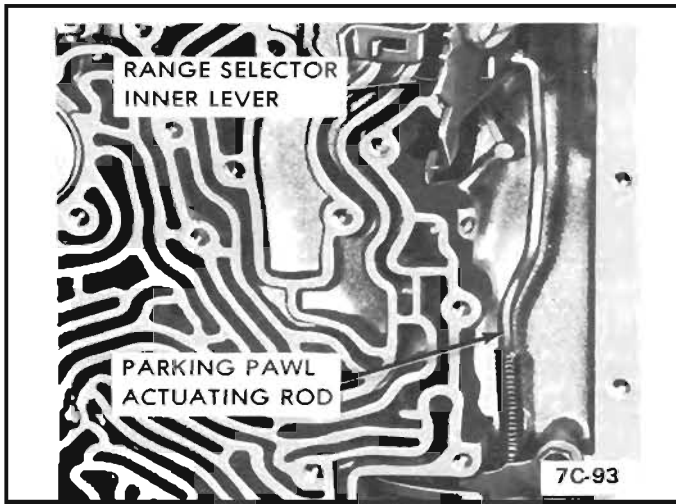

Figure 104 Actuating Rod
5. Install actuating rod under the park lock bracket and parking pawl. See Figure 104.